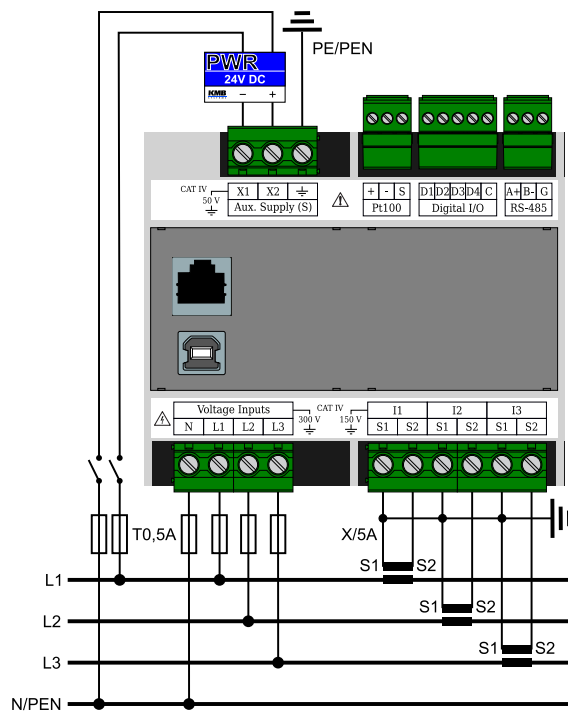
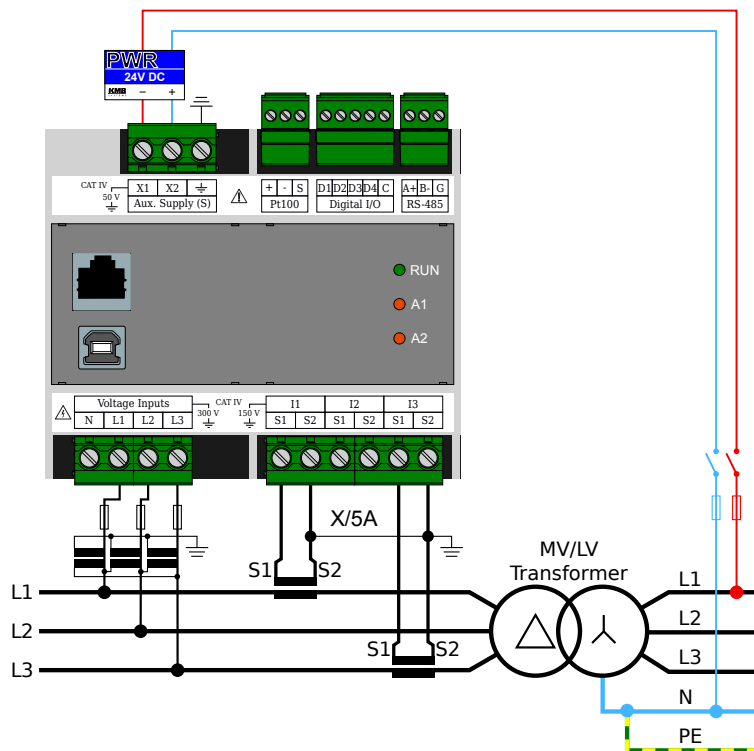

Figure 6: An example of a typical connection of SMC 233 in a LV network - wiring a measured voltage to a star in a four-wire network.
Figure 7: An example of a typical instrumentation of SMC 233 when measured in a MV, HV network on the secondary side of an instrument transformer.
Option „X/5A“ The secondary CT winding of nominal 5 A or 1 A must be fed to the terminals S1 and S2 of the current inputs I1, I2 and I3. Figure 6 illustrates the correct connection with the CTs in the LV network. In the figure 7, there is an example of a HV network using an Aron circuit where I2 inputs remain unconnected. In MV/HV networks, it is always necessary to ground the S1 (or S2) terminals of all CTs at one point.
- For direct measurement (see eg Fig. 6 set the multiplier value to 1 — default value.